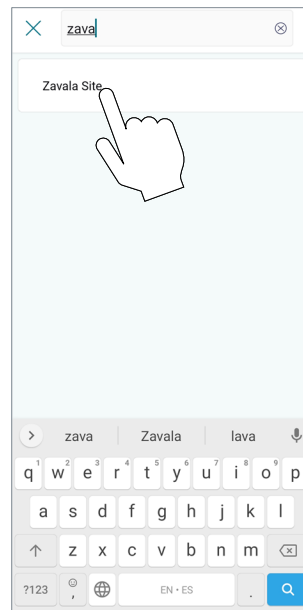

**Figure 135. Switch Organization**
2. On the main menu, click on the “Organization” option. See **Figure 135**.